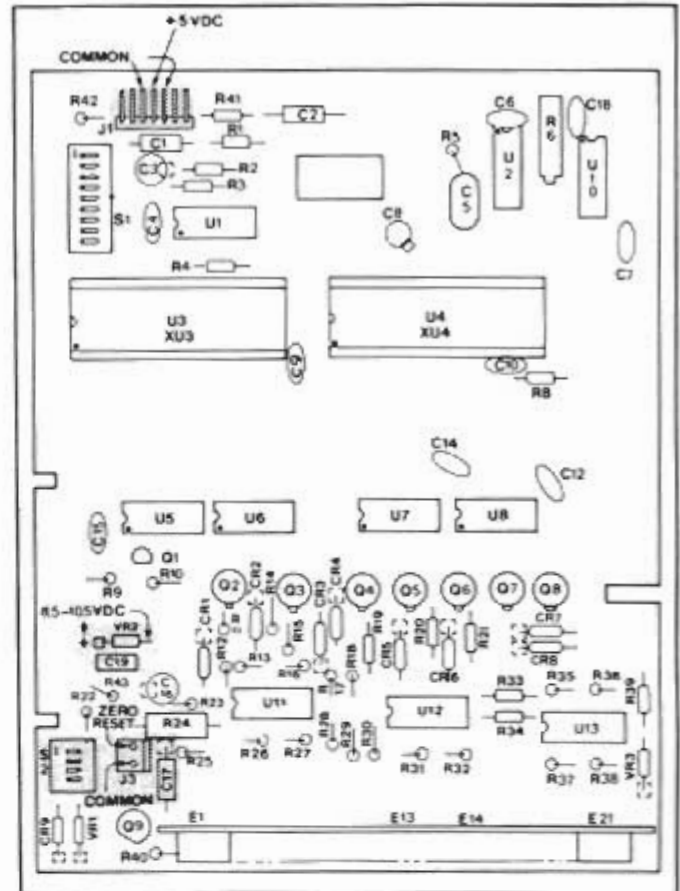

Figure 5-1. Test Points on Axis/Display Board
This section is primarily devoted to troubleshooting the system. Table 5-1 will assist you in isolating the problem and making the proper repair. In addition, this section includes procedures for troubleshooting A-R/1 and A-R/5 scale assemblies, plus procedures for reading head removal and replacement. Figures 5-1 and 5-2 identify electronic parts and test points on both the typical axis/display printed-circuit board and the power supply board. Refer to Figures 5-3 and 5-4 for identification of scale assembly parts.
2. Voltage supply(ies) on the axis board inadequate	For qualified electronic technician only: Check the +10V D.C. (may range from +8.5V to 14.0V) and +5 V D.C. (must be $+5.1V \pm 0.5V$ ) supplies at points shown in Figure 5-1.
2. Low supply voltage.	For qualified electronic technician only: Check for low +5V D.C. supply voltage. See Figure 5-1 (also see "b". 2.).